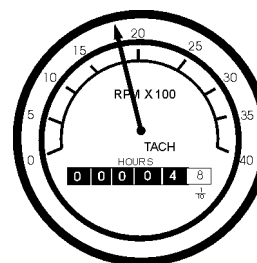

Figure 61. Engine Tachometer
18. The tachometer (Figure 61) will indicate the speed of the engine when the generator is operating. Under normal operating conditions this speed is approximately 1800 RPM's.